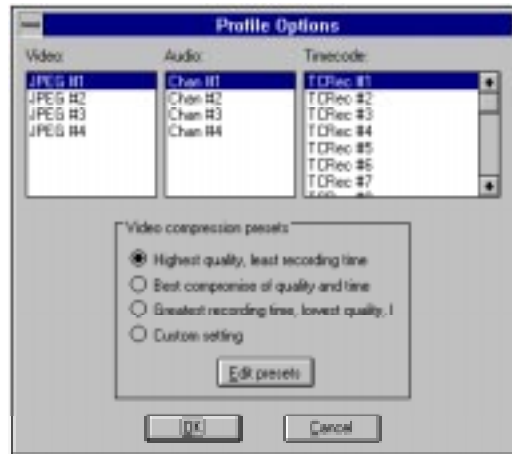

Figure 156. Profile Options (controller configuration) dialog box
2. Choose **Controller | Configure** to access the Profile Options dialog box for the selected panel. Figure 156 illustrates the standard Profile Options dialog box.